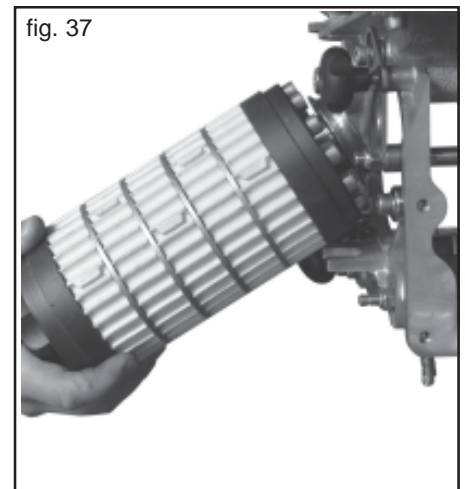

fig. 37
- 2) Extract the seeding roller (Fig. 37) as shown and described previously.